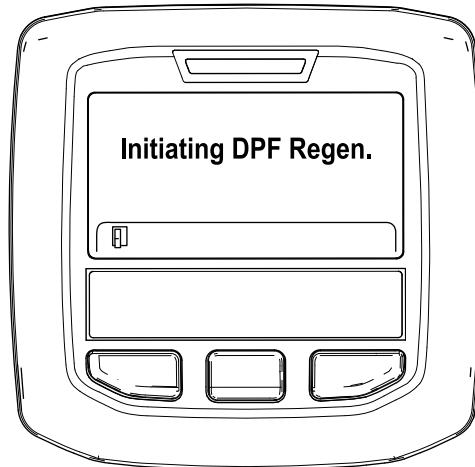

Figure 50
A. The "Initiating DPF Regen." message displays (Figure 50).